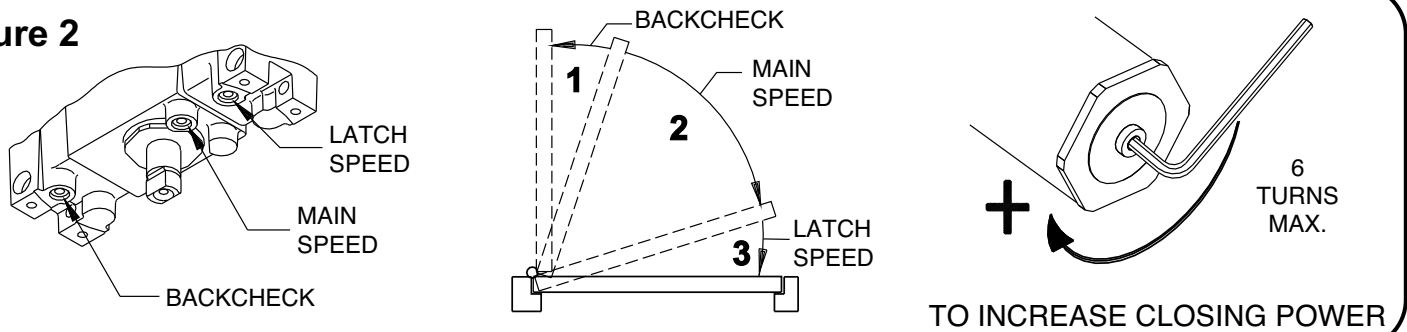

Figure 3
FOR CONCEALED WIRING: See Fig. 3 on page 3.
4. Make wiring connections at this time. Connect two black wires to 2 solenoid leads on MED unit REF: White - Black / White - Red (**MED & MEC must have same power input**). Green wire **MUST** be connected to an earth ground. (See Fig. 3 & 4 on page 3)